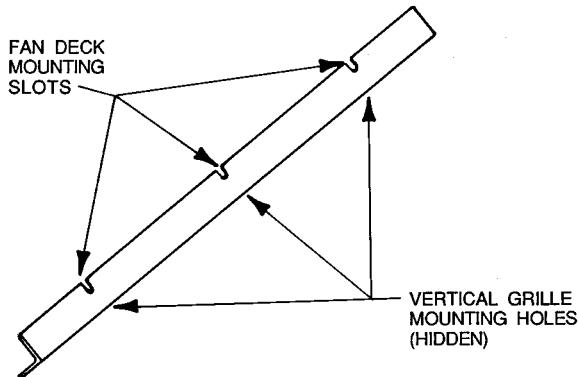

Fig. 3 — Grille Angle (Grille Mounting Bracket)
3. Slide each factory-supplied grille angle under the 3 fan deck screws by aligning the slots in the angle with the screws. Retighten the screws. See Fig. 3 and 4.